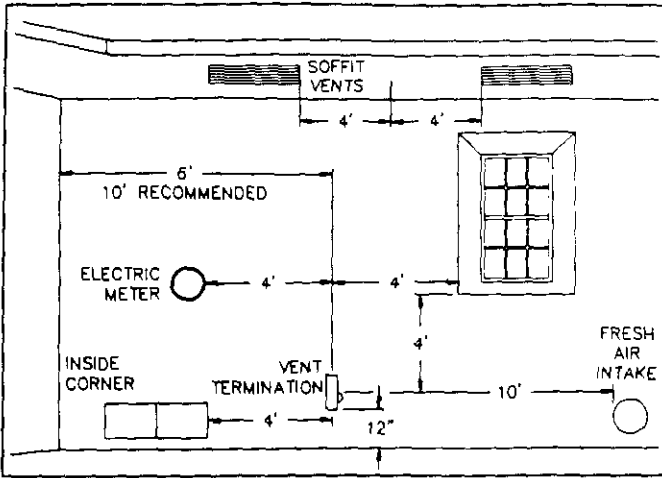

FIGURE 1
- Locate vent termination following the minimum clearances listed below and see Figure 1.